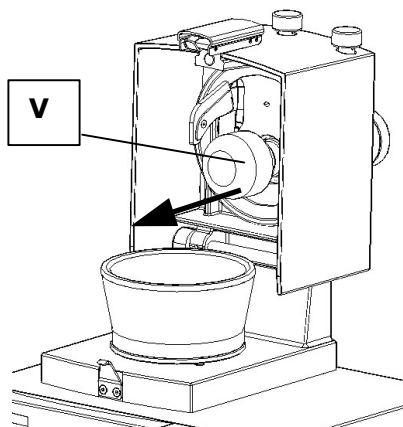

Fig. 4
- Remove the pestle **V** horizontally from its holder while holding the hood firmly **Fig.4**